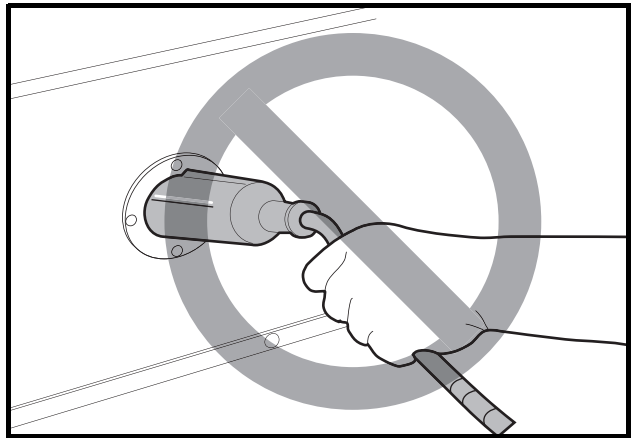

Figure 23 Incorrect Insertion of Charger DC Plug
- Do not pull on the DC cord (Figure 23, Page 41). Do not twist, rock or bend the plug. To disconnect the charger plug from the vehicle receptacle, grasp the plug by the handle and pull the plug straight out of the receptacle.